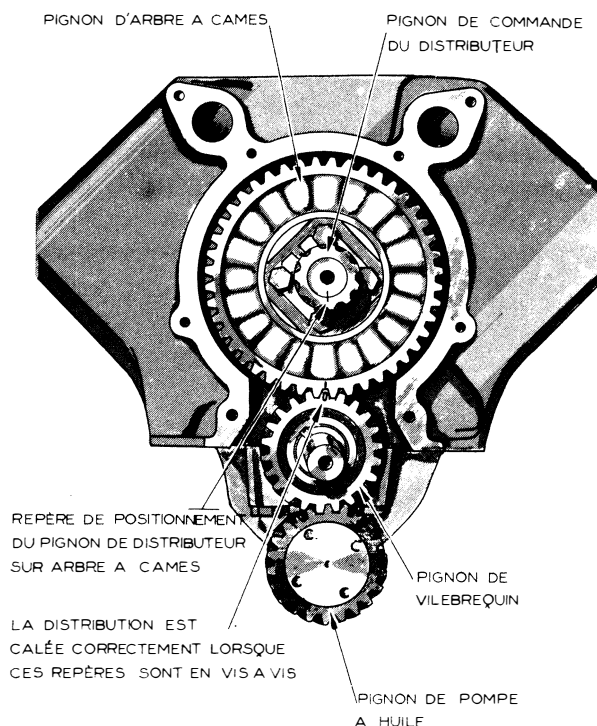

Fig. 17 -
7. Install the crankshaft positioning same in order to have the timing mark on the gear aligned with the timing mark on camshaft gear (Fig.17).